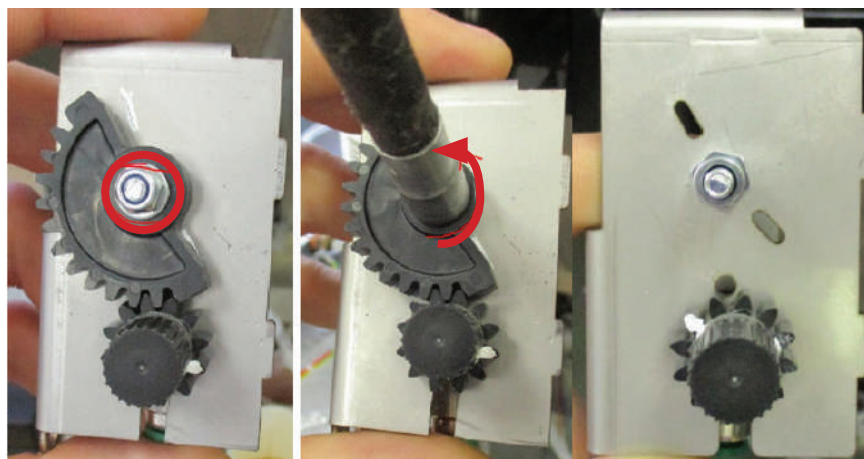

Fig.4.12
4. Unscrew the gear sector fixing nut (fig. 4.12).